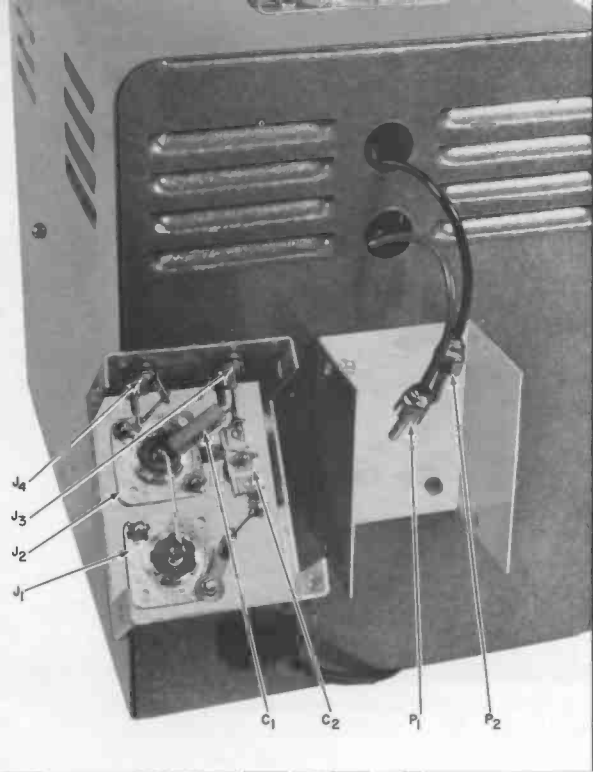

Figure 3: Open halves of RF sample-box showing wiring and mounting detail.
The builder is advised to follow closely the layout and assembly configurations shown in Figures 3 and 4. Length of the leads from  $J_3$  and  $J_4$  to the "V"-plate connections should not exceed 5 inches. A suggested step-by-step procedure for construction of the sample-box is as follows:
3. Using Figure 3 as a reference, locate the proposed positions on the rear of the oscilloscope case for the two mounting screws (#6 S.T.) of the sample-box. After drilling and punching the  $\frac{5}{8}$ -inch holes, attach the bottom half of the sample-box to the case, making certain that the screws will not short out any components of the chassis. Then attach the "snap-on" top portion.